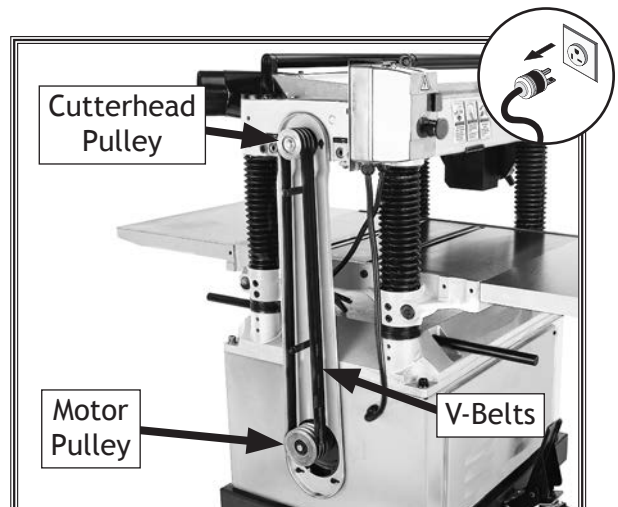

Figure 44. Example of belt cover removed to expose V-belts and pulleys.
2. Remove V-belt cover from left side of machine to expose belts, as shown in Figure 44.